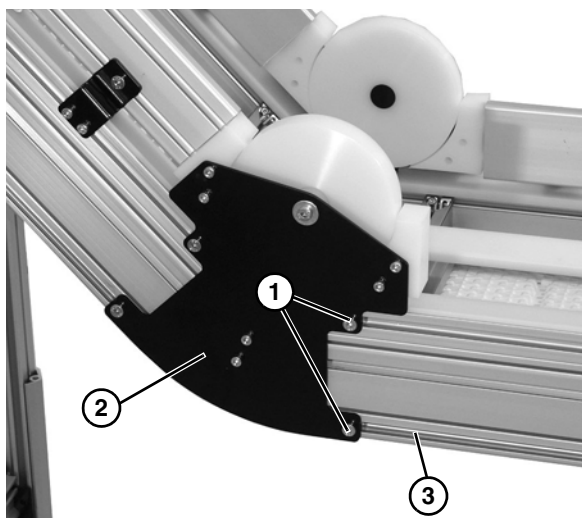

Figure 7
2. Attach lower knuckle to frame by loosening two socket head capscrews (**Figure 7, item 1**) on each side of lower knuckle assembly (**Figure 7, item 2**), and sliding T-Nuts into straight frame section (**Figure 7, item 3**).